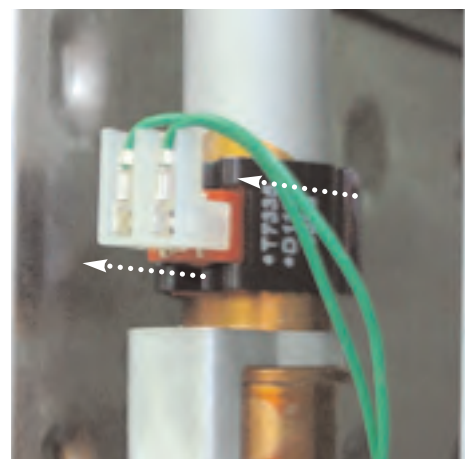

Fig. 94
2. Pull off the NTC connections. Then remove the NTC from the pipe by releasing its securing clip (see Fig. 94).